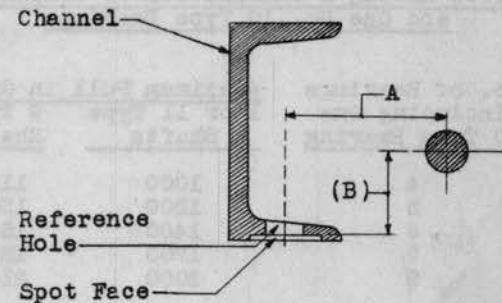

Fig. 1
(1) Fig. 1 (A) - The perpendicular distance between the centerline of the vertical drive shaft and the centerline of the reference hole is $2-11/64" \pm 1/32"$.
(2) Fig. 1 (B) - The perpendicular distance between the spot face of the channel and the centerline of the vertical drive shaft is $1-1/4" \pm 1/32"$ measured at a point just beneath the bearings.